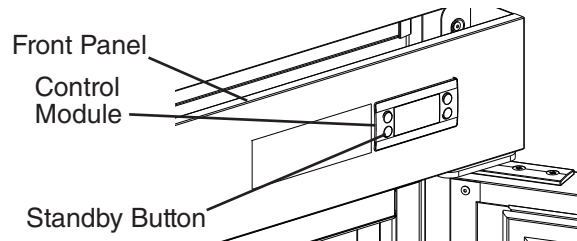

Fig. 70
2) Press and hold the standby button on the control module until "OFF" appears in the display, then unplug the appliance from the electrical outlet. See Fig. 70.